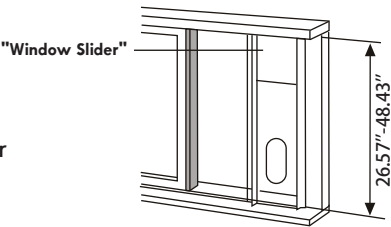

Fig.13
- 2. Place the window slider onto the adhesive foam seal (see Fig. 13). Adjust window slider height according to the instructions on page 8.
- 3. Cut another length of adhesive foam seal and attach it to the window sash (see Fig. 13). Close the window sash securely onto the window slider (see Fig. 14).